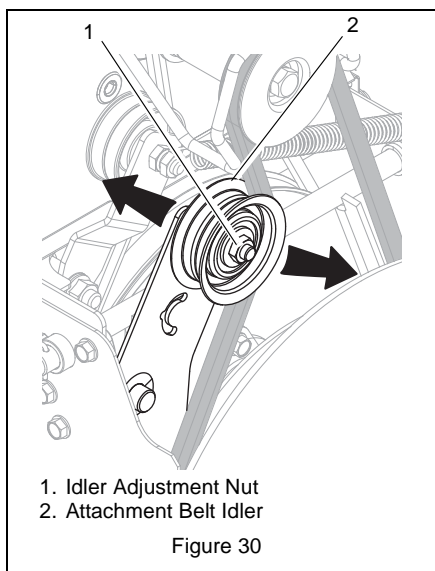

Figure 30
- If roller is less than 1/2" (12.7 mm) from frame, loosen idler adjustment nut and move idler closer to the belt. Tighten adjustment nut and recheck the roller clearance (Figure 30).
- If roller is more than 7/8" (22.2 mm) from frame, loosen idler adjustment nut and move idler away from the belt. Tighten adjustment nut and recheck roller clearance (Figure 30).